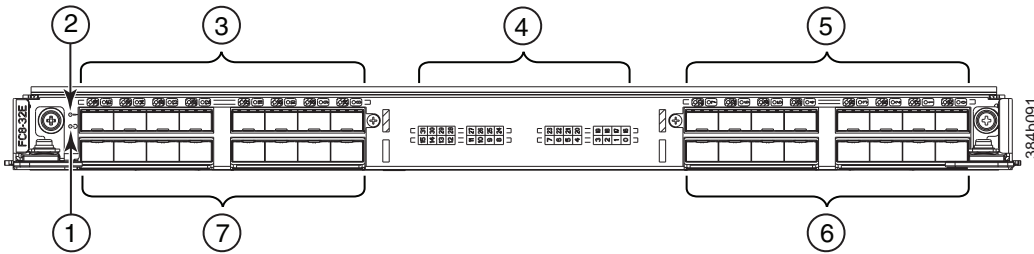

Figure 56. FC8-32E port blade
- Figure 56 on page 152 shows an FC8-32E port blade